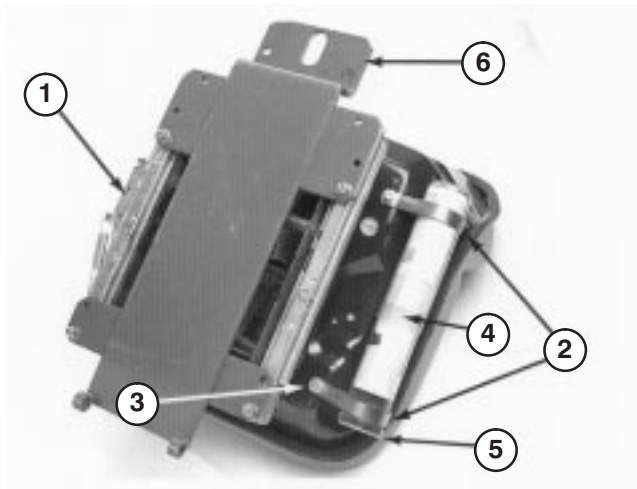

Figure 11
- Mount seat suspension assembly to (4) capscrews on seat bottom and secure with (4) lockwashers, flatwashers and nuts (Fig. 11).
- Loosely secure (2) R-clamps to right side of seat bottom with (2) capscrews and flatwashers supplied in kit (Fig. 11). Install manual tube into R-clamps and tighten capscrews (Fig. 11).
- Mount seat support over four threaded studs at the bottom of seat suspension assembly and secure in place with flangenuts (Fig. 11).